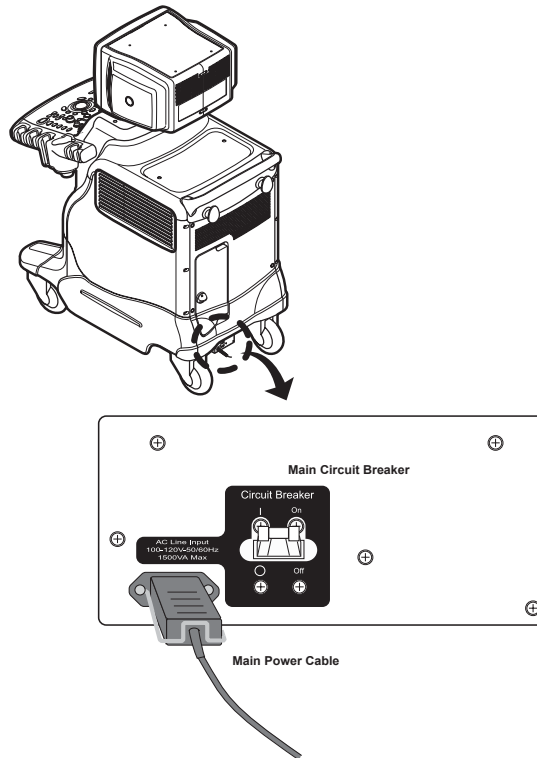

Figure 3-14 Circuit Breaker
- 2.) Switch OFF the Main Circuit Breaker at the rear of the system Refer to Figure 3-14 on page 3-11 .